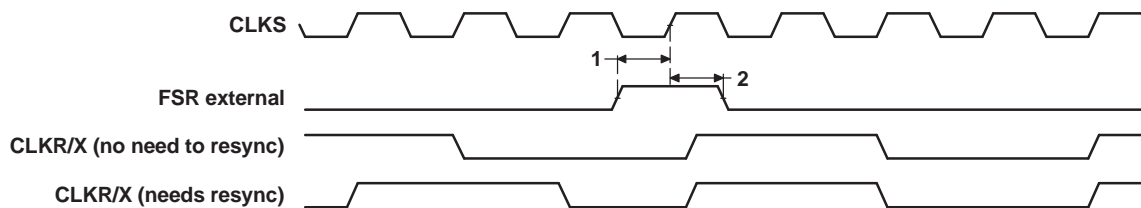

Figure 5-41. FSR Timing When GSYNC = 1
5.12.3 Timing Requirements for FSR When GSYNC = 1 (see Figure 5-41)